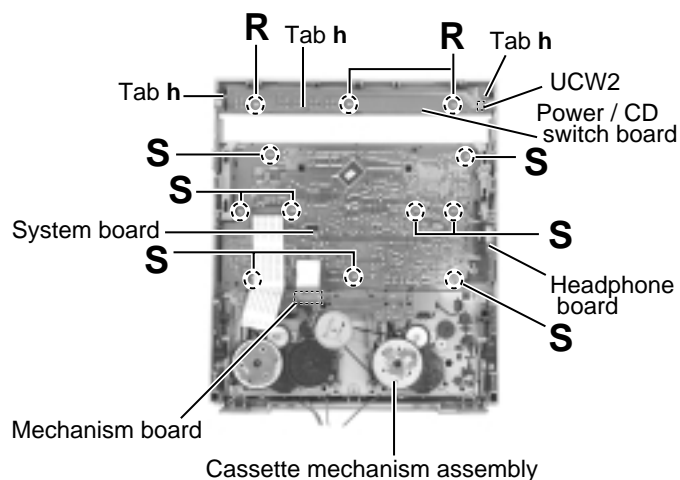

Fig.22
■ Removing the power / CD switch board (See Fig.22)
■ Removing the system board (See Fig.22 and 23)